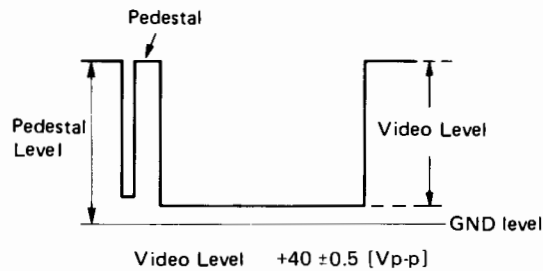

Figure 6-2. Video Signal Levels
5. Check pedestal level for $+49.5 \text{ Vdc} \pm 1.5 \text{ Vdc}$. See Figure 6-2.
6. Adjust RV-401 (R-DRV) on the "A" board for $+40 \pm 0.5 \text{ Vp-p}$ video amplitude. See Figure 6-2.
8. Check that G1 (Grid 1 in CRT) level is -45 ± 2.0 Vdc. See Figure 6-2.
4. Check that video amplitude is 40 ± 0.5 V_{p-p}. See Figure 6-2.